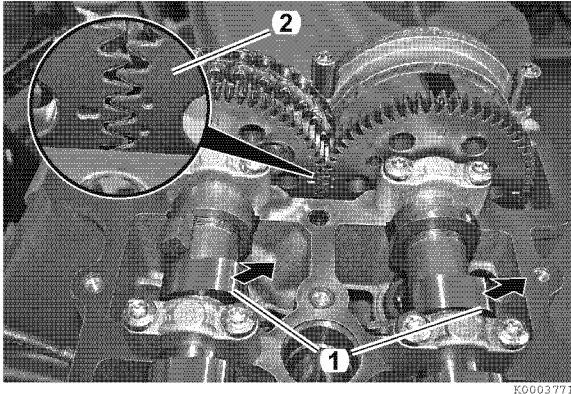

Figure 5-95
- Rotate the crankshaft in the normal running direction until No. 1 cylinder is at TDC of the power stroke. The front lobe of each camshaft (1, **Figure 5-95**) will be facing toward the exhaust side and the timing marks (2, **Figure 5-95**) will meet.
- Verify position by checking that the camshaft timing marks (2, **Figure 5-95**) on gears are aligned. The single mark on intake camshaft gear must fall between the two marks on the exhaust camshaft gear.